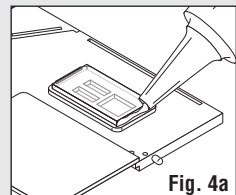

Fig. 4a
- Align Window Material over corresponding windows on inside of Building. Dab a small amount of glue carefully around edges (**Fig. 4a**).